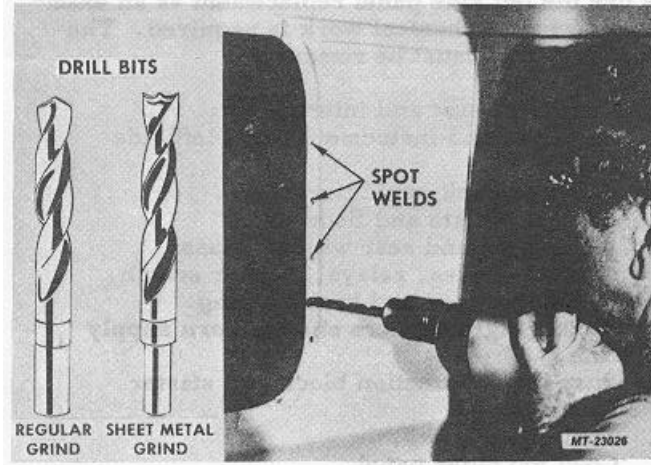

Fig. 37. Removing Cab Inner Corner Panel
The actual side panel removal requires the drilling out of spot welds which attach the side panel to other panels of the cab. Sheet metal drill bits should be used. These are drill bits, the ends of which have been ground for this special purpose. An example of a sheet metal drill bit as compared to a regular drill bit is shown in Fig. 37. When spot welds have been removed, a pneumatic chisel is then used to open seams which have been clinched together.
1. For access to back panel joint, remove cab inner corner panel. Remove trim strip between corner panel and inner roof panel and drill out spot welds (Fig. 37) around panel. Separate corner panel from back panel, inner roof panel and side panel assembly.